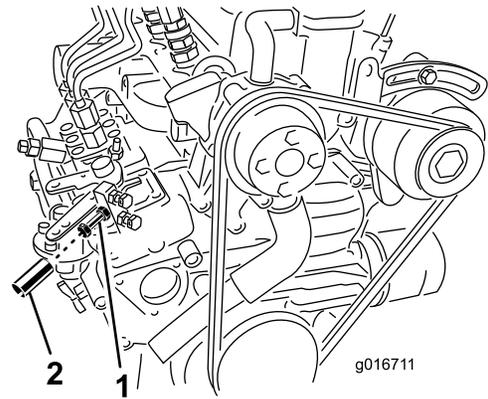

Figure 6
- Using a tachometer and the throttle adjustment screw on the engine (Figure 6), set the engine speed to 3200 RPM maximum, then tighten the jam nut on the adjusting screw.
- Slide an aluminum tube over the throttle adjustment screw and jam nut (Figure 6) and crimp it down over the screw so that the screw cannot be adjusted again.